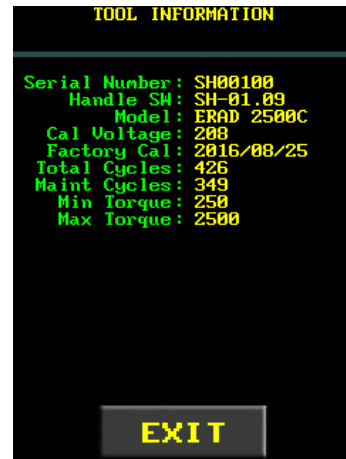

Figure 4.7.1-3: Handle Information
**To view the Sensor or Smart Socket information** (Figure 4.7.1-4):